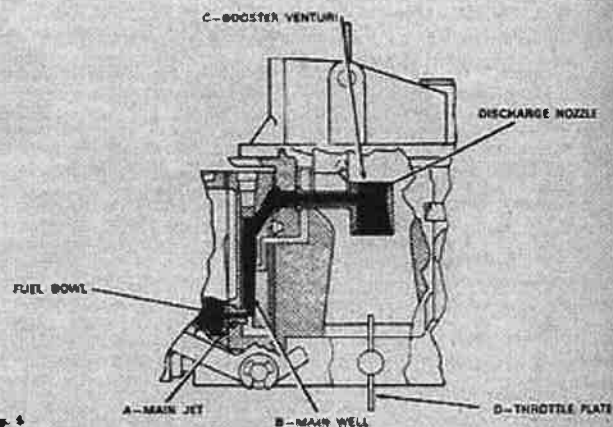

Fig. 5
The main metering system in the primary carburetor (*Figure 5*) operates at cruising speed when the accelerator is further depressed. Fuel flows from the bowl through main jets (A) which meter fuel into the bottom of the main well (B). Fuel moves up the main well and through the discharge nozzle, into the booster venturi (C). Throttle plate position (D—shown in wide-open position) controls the air flow and fuel-air mixture entering the manifold.